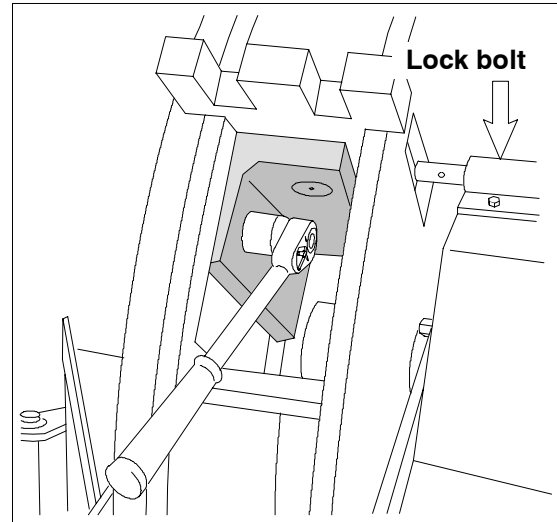

Fig. 17. Locking the disk and removing the lock nuts.
- Remove the lock bolt (M6) (1).
- Loosen the hinge bushing nuts (M20) (2) slightly.
- Pull the hinge pin (3) out.
- Lock the disk with the lock bolt See Fig. 17.
1. Remove the knife lock nuts (M12). Fig. 17.